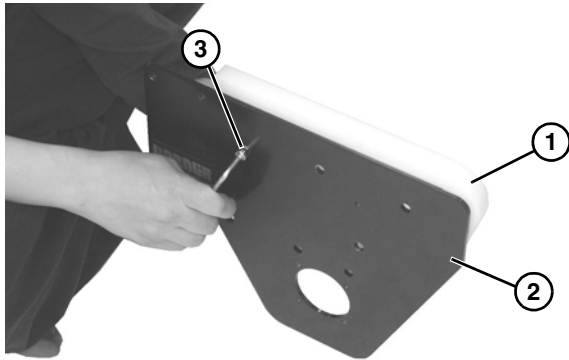

Figure 39
15. Check drive terminal assembly (**Figure 39, item 1**) for wear. If worn, remove two low head cap screws (**Figure 39, item 2**) and low head cap screw (**Figure 39, item 3**) and replace.